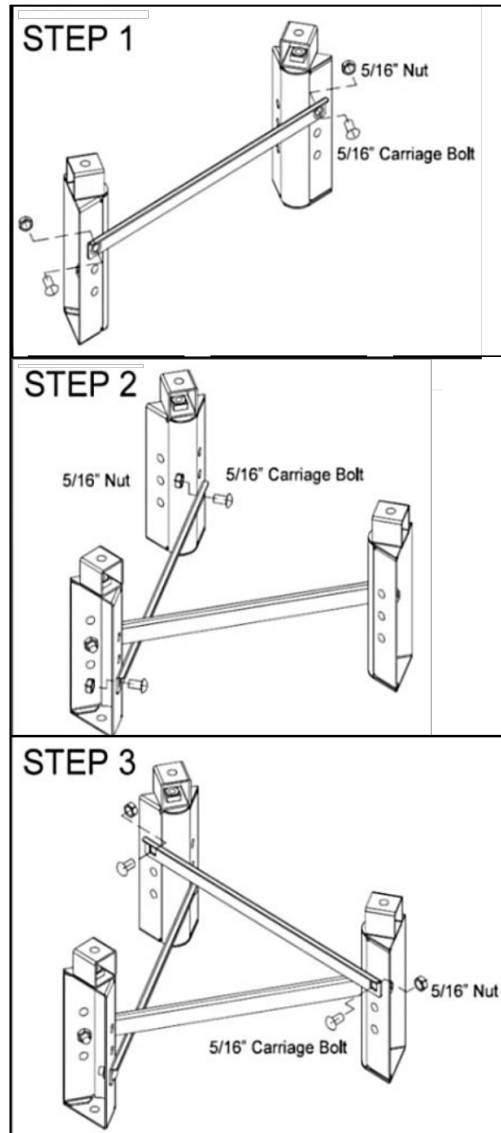

Figure 6 - Assembling the 20 Gallon Model Water Heater Stand
1. Use a 5/16" socket and two (2) carriage bolts and nuts to connect a cross beam to two legs. See Figure 6, Step 1.
2. Use a 5/16" socket and two (2) carriage bolts and nuts to connect a cross beam to the third leg. See Figure 6, Step 2.
3. Use a 5/16" socket and two (2) carriage bolts and nuts to connect the final cross beam. See Figure 6, Step 3.